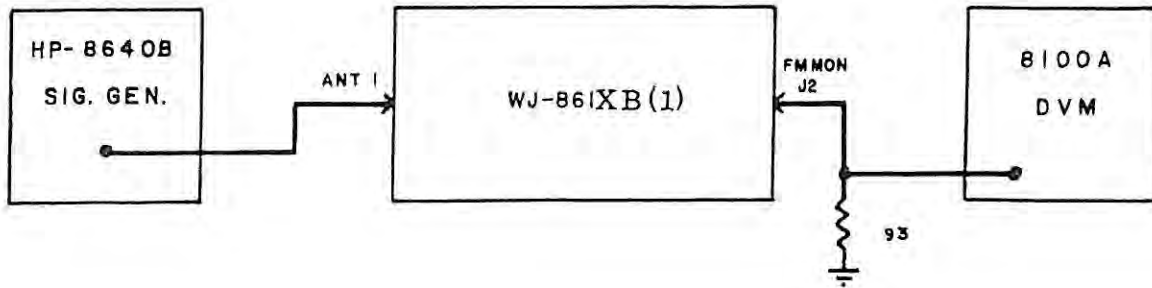

Figure S-2. FM Demodulator Performance Test, Equipment Connections
1. Connect the test equipment as illustrated in **Figure S-2**.